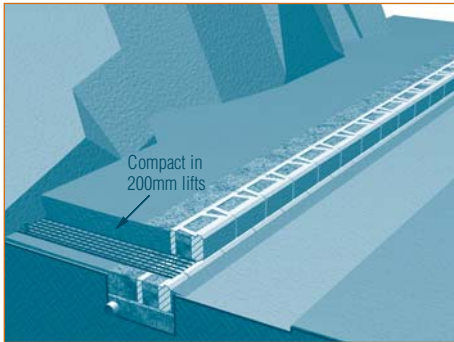

Figure 10: Compact in 200mm Lifts
- Compact in maximum 200mm lifts, starting on the wall and working in a path that runs parallel to the wall towards the back of the reinforced zone (Figure 10).
- Each lift of drainage and backfill material should be installed in the same manner. Compact in lifts of 200mm, the height of one AB unit (Figure 10).